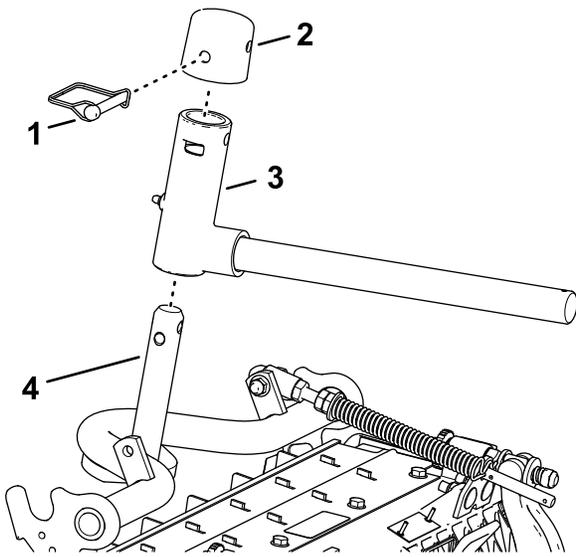

Figure 28
2. Assemble the lift-arm yoke onto the carrier frame shaft (Figure 28).